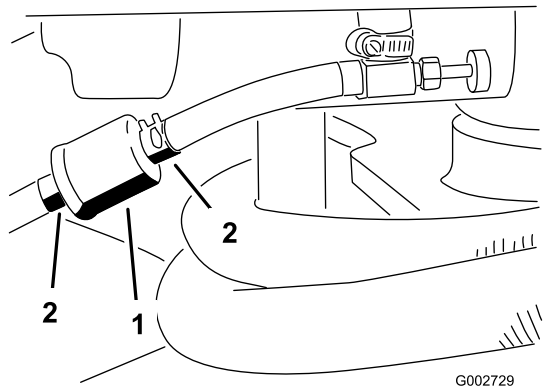

Figure 31
1. Close the fuel-shutoff valve, loosen the hose clamp on the carburetor side of the filter, and remove the fuel line from the filter (Figure 31).